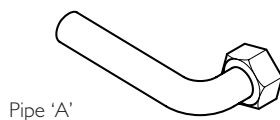

Fig. 17b
4. The two flanged copper elbows supplied are of different lengths (Fig. 17b). Use pipe 'A' to connect to the cold inlet. Pipe 'B' should be used to connect to the central heating return.